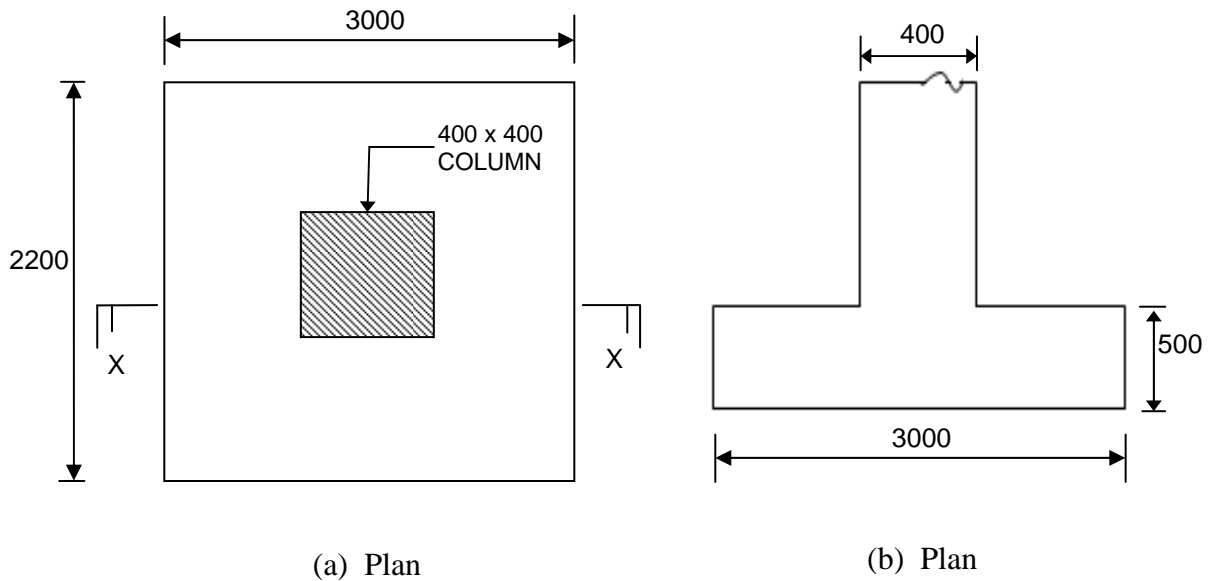

Figure 5 Plan and section of pad footing
- b) Design and provide complete detailing for the isolated pad footing as shown in Figure 5. The design parameters are as follows:-